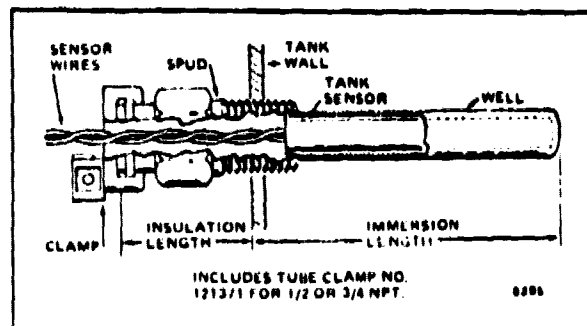

FIG. 1-TANK SENSOR INSERTED IN IMMERSION WELL.
**Immersion Well**-for mounting sensor in storage tank. See Table 1 and Fig. 1.